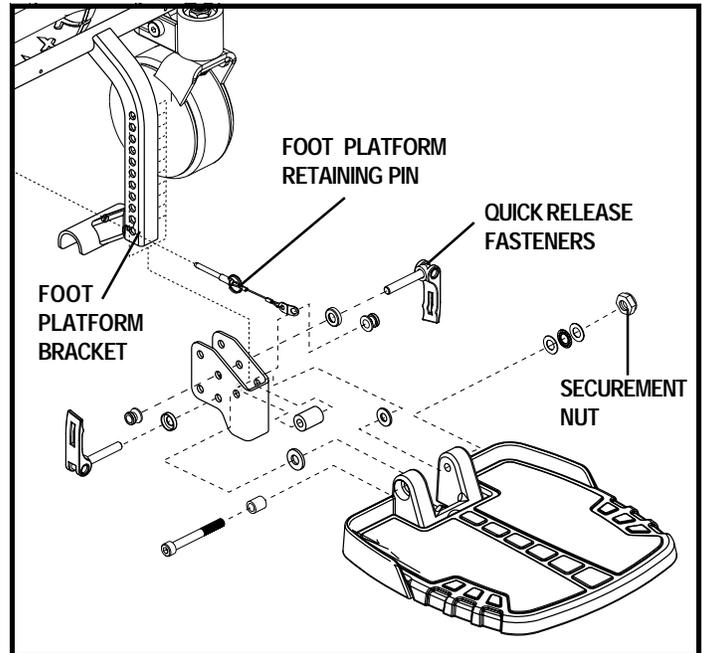
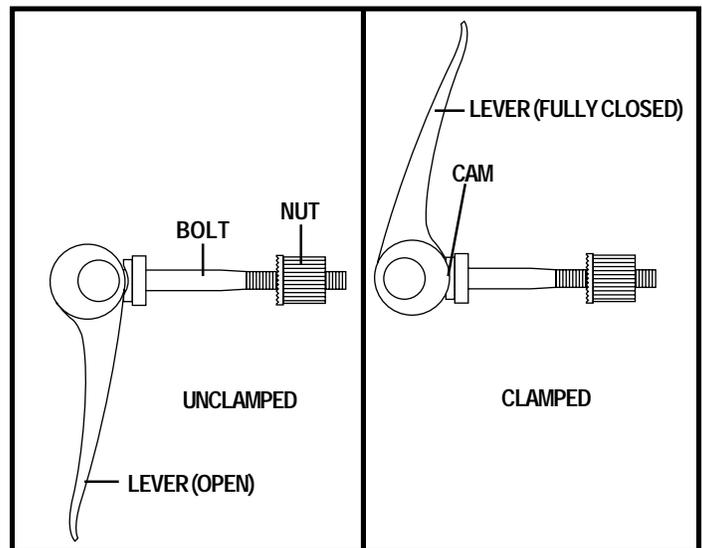

Figure 15. Foot Platform Adjustment
Figure 16. Quick Release Fastener Operation
1. Remove the quick release fasteners from the foot platform bracket. See figure 15.
**Quick Release Fasteners:** The foot platform is attached to the power base with two quick release fasteners. See figure 15. Each quick release fastener consists of a bolt, a lever, and a nut. See figure 16. The lever has a cam on the end that allows it to clamp into place. The quick release fastener has
You can adjust the angle of the foot platform with a hex key. See figure 15.